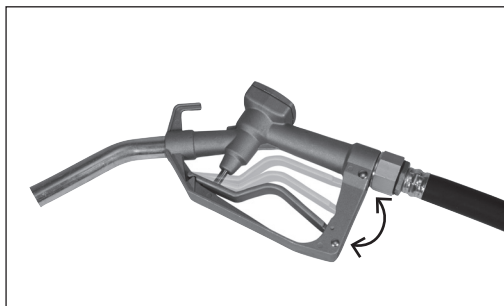

Fig. 6
- a. Squeeze the trigger to the appropriate position and hold it in place (Fig. 6).